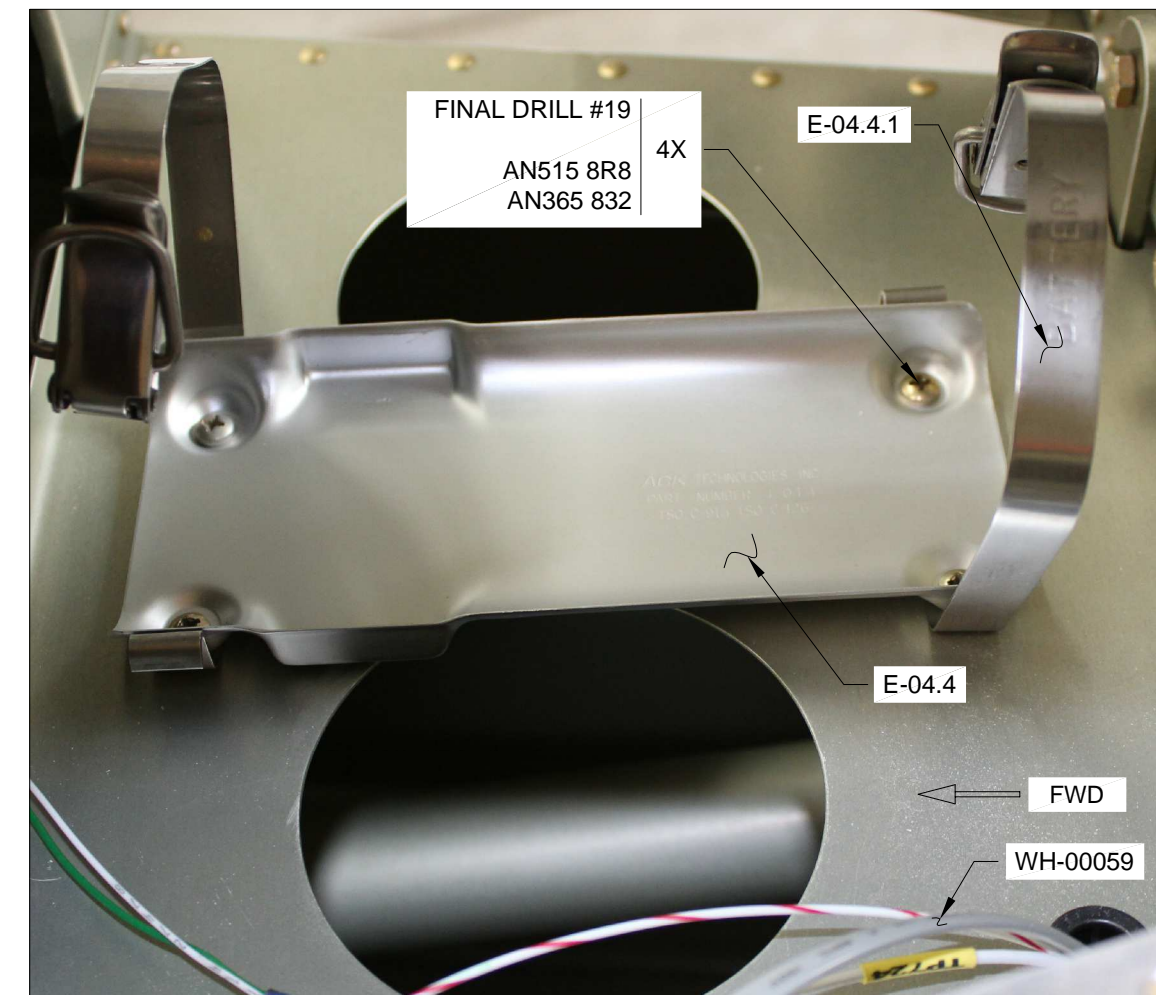

FIGURE 4: ELT MOUNTING TRAY INSTALLATION
Step 7: Final-Drill #19 the holes in the E-04.4 Mounting Tray as called out in Figure 4.
Step 8: Install the E-04.4 Mounting Tray using the hardware shown in Figure 4 and the Retaining Straps provided with the ELT. Note the orientation of the mounting tray and that the strap labeled "BATTERY" goes at the aft end.